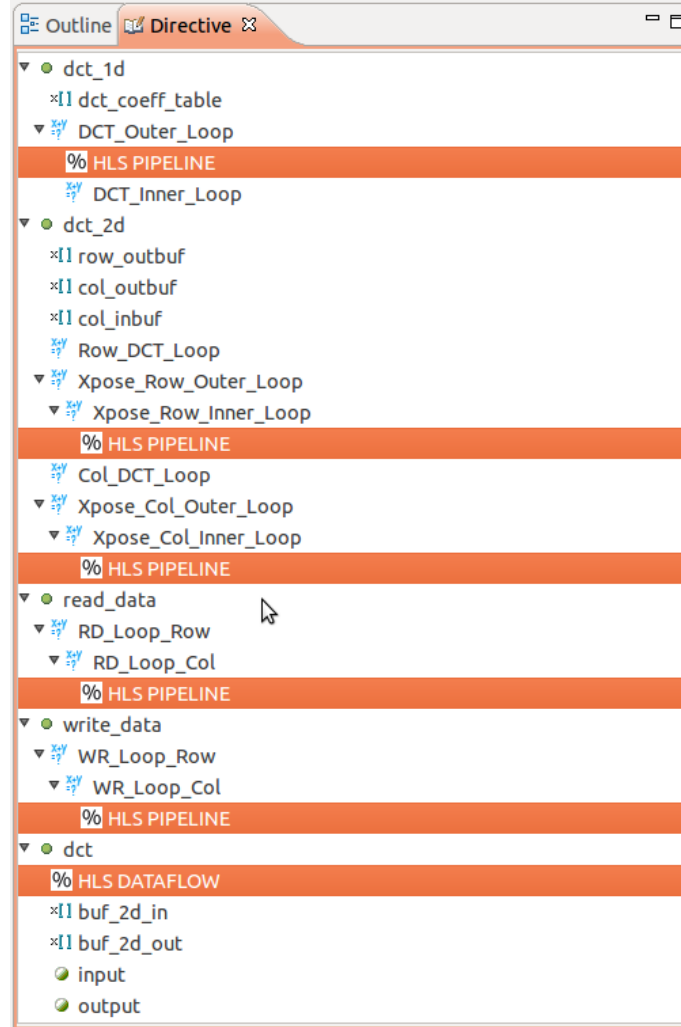

Figure 3.13.: Directives for solution4.
4. Figure 3.13 shows the directive tab for the current solution.